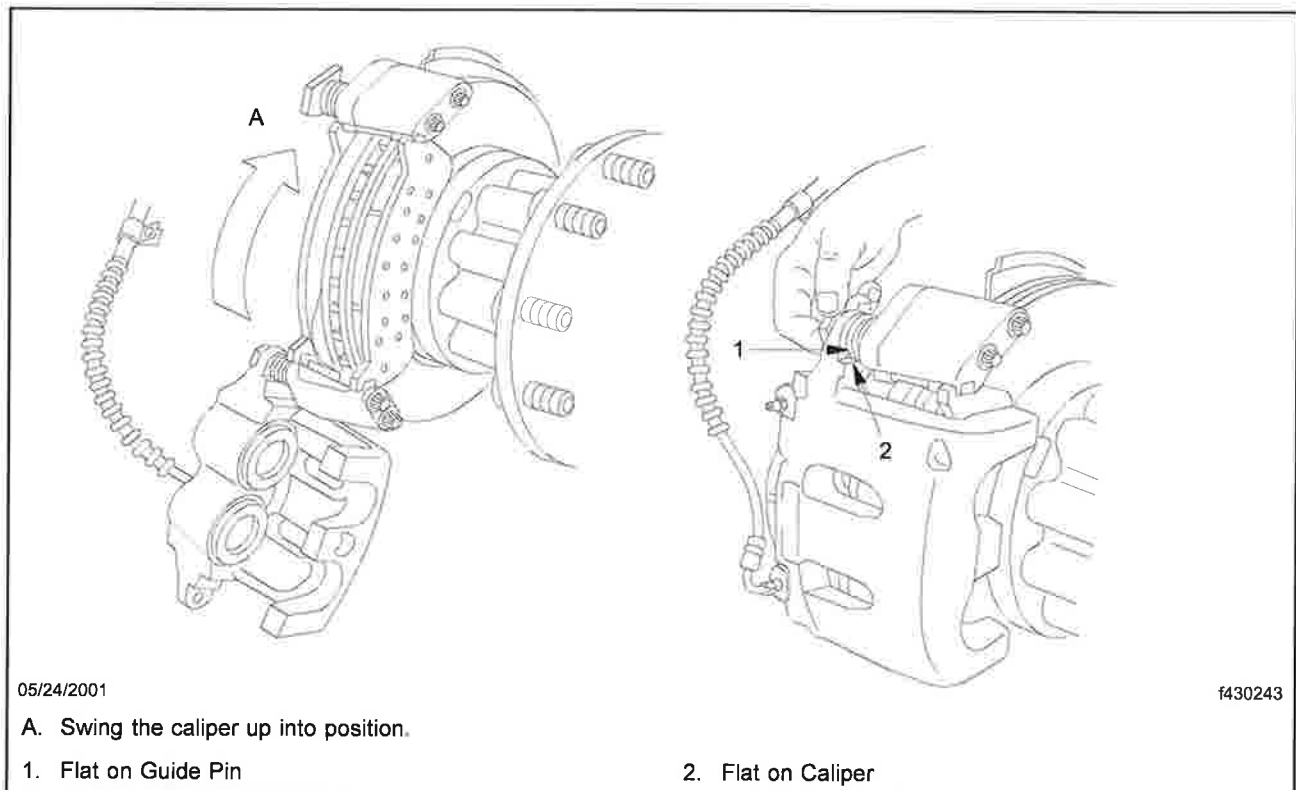

Fig. 9, Closing the Caliper Over the Brake Pads and Rotor
21. Carefully rotate the caliper closed about the lower guide pin and bolt. Do not allow the brake line hose to become pinched or kinked. Align the flat on the upper guide pin head with the flat on the caliper upper guide pin boss. See Fig. 9.